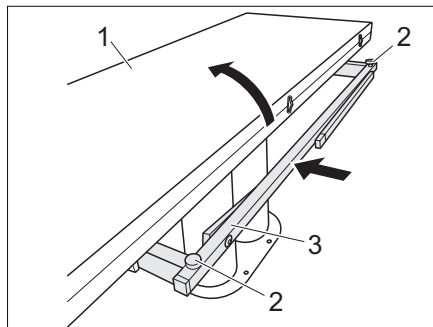

Fig. 70 Reducing the table
- ▶ Fold in the table half (Fig. 70,1).
- ▶ Screw the two adjusting screws (Fig. 70,2) in.
- ▶ Push in the table base (Fig. 70,3).